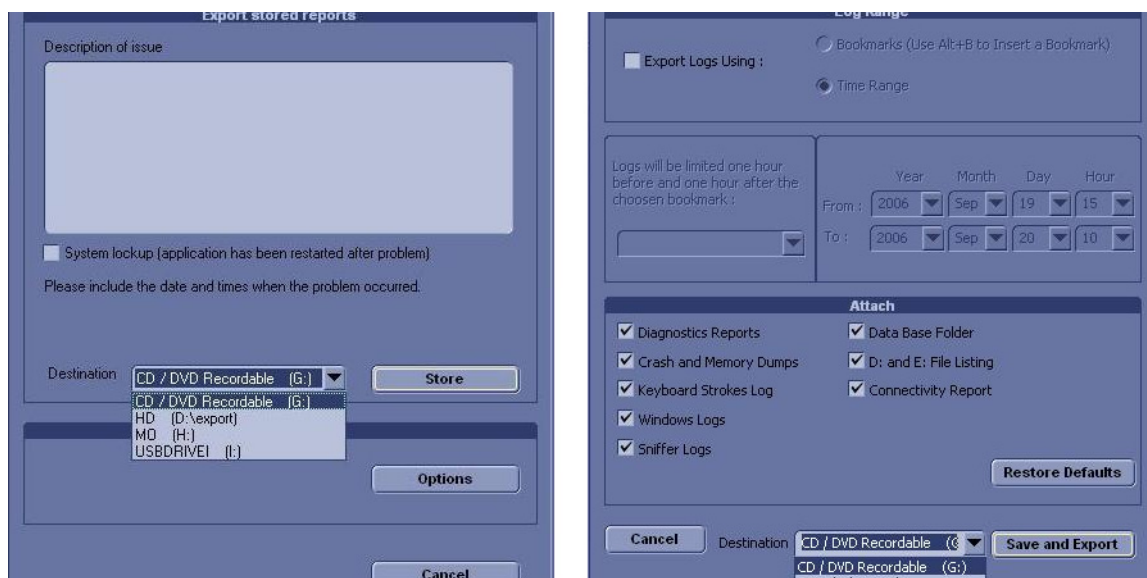

Figure 7-1 ALT-D Dialog Box
**NOTE:** From BTO5 software, USB memory stick is supported. Option button and options dialog box like the right side image in Figure 7-1 is only supported from R4.0.4.
When pressing Option button, you can see the Advanced Option dialog box like Figure 7-1.
Under the Attach section, you can select various log options as seen in the Figure 7-1.